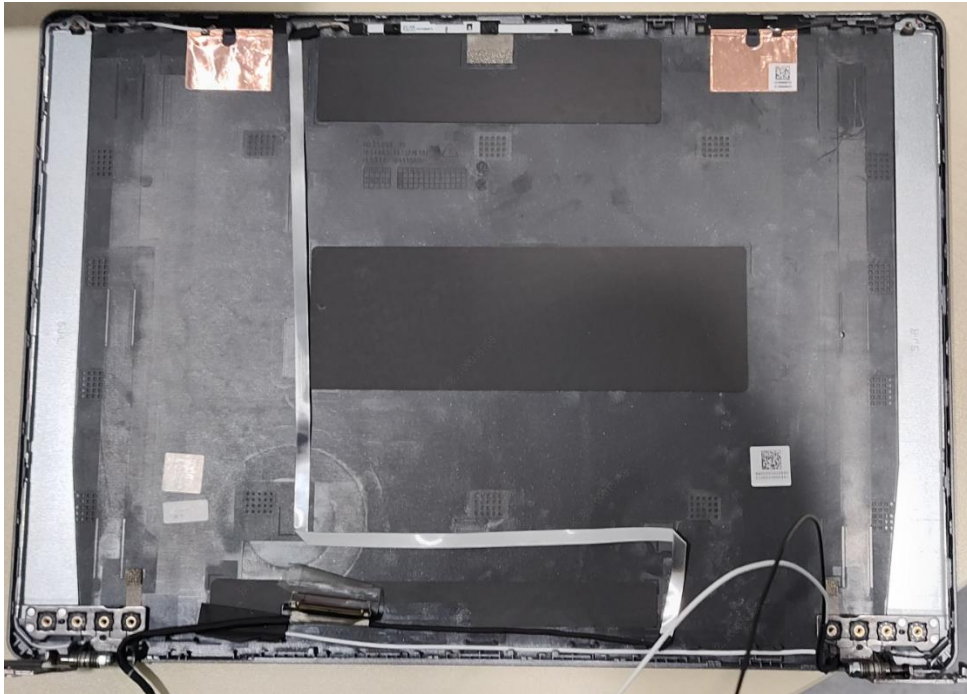

Figure 3-55. Replacing the LCD Hinges
1. Place the LCD hinges (A) on the LCD cover (Figure 3-55).